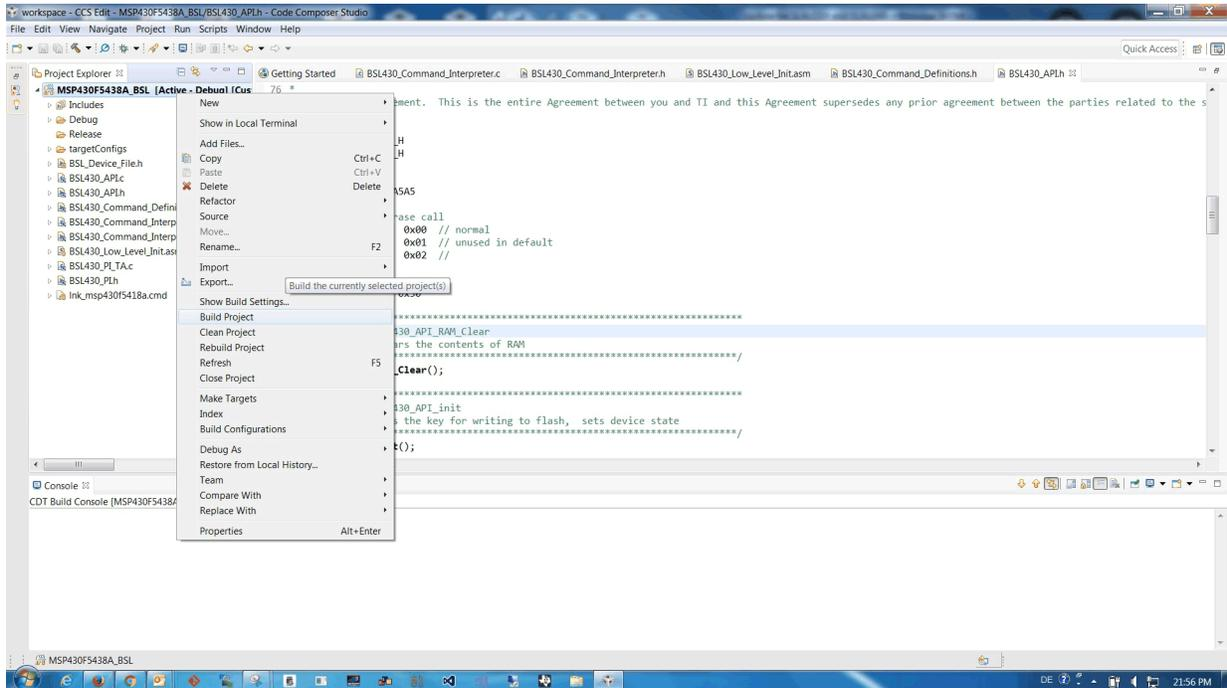

Figure 14. Build Project
- c. Build the project (see Figure 14).